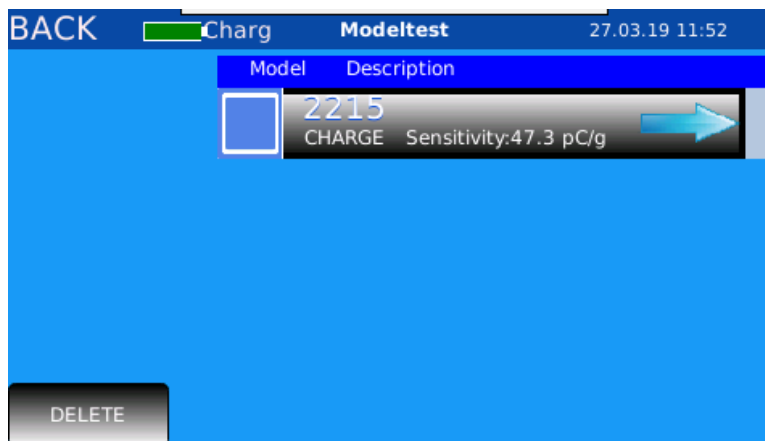

Figure 9. After selecting the Endevco manufacturer option, the custom sensor imports are displayed.
- g. Sensors belonging to the category and manufacturer selected will appear. A sensor can then be selected for testing (Figure 9).